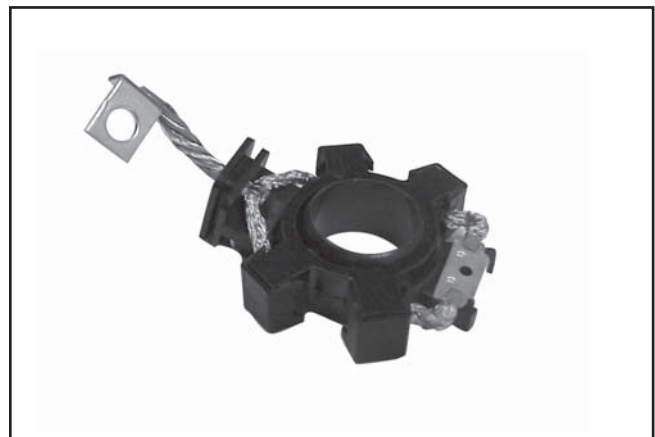

Figure 8-53. Service Brush Kit.
4. The new brushes and springs come preassembled in a brush holder with a protective sleeve that will also serve as an installation tool. See Figure 8-53.